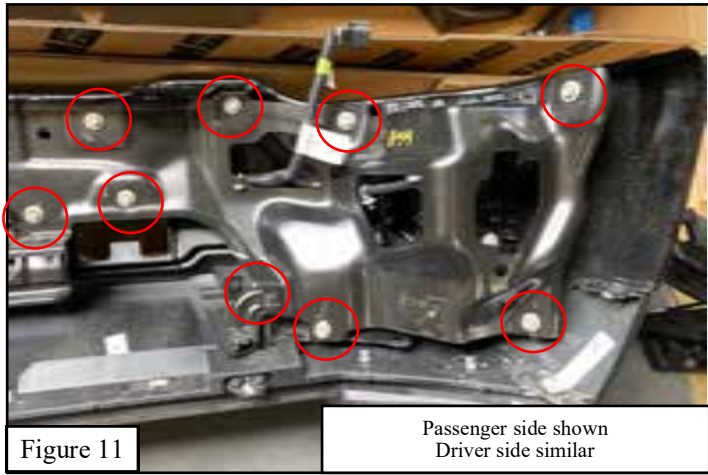

Figure 9
12. Remove OE bumper brackets and Aerodynamic Active Shutters. See **Figure 9** for reference. *Note: Removal of Aerodynamic Active shutters may cause Check Engine Light to turn on. Be sure to complete **Step 22**.*